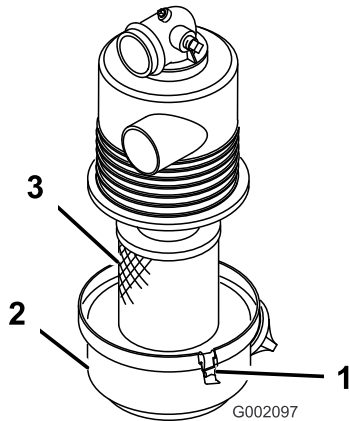

Figure 12
1. Check the air cleaner body for damage, which could possibly cause an air leak. Ensure that the cover is sealing around the air cleaner body (Figure 12).
3. Insert the air-filter element into air-filter housing (Figure 12).
4. Align the air-cleaner cover with the air-cleaner housing (Figure 12).
5. Secure the cover to the housing with the latches (Figure 12).
2. Release the latches securing the air-filter cover to the air-filter housing (Figure 12).
3. Separate the air-filter cover from the air-filter housing, and clean the inside of the cover (Figure 12).